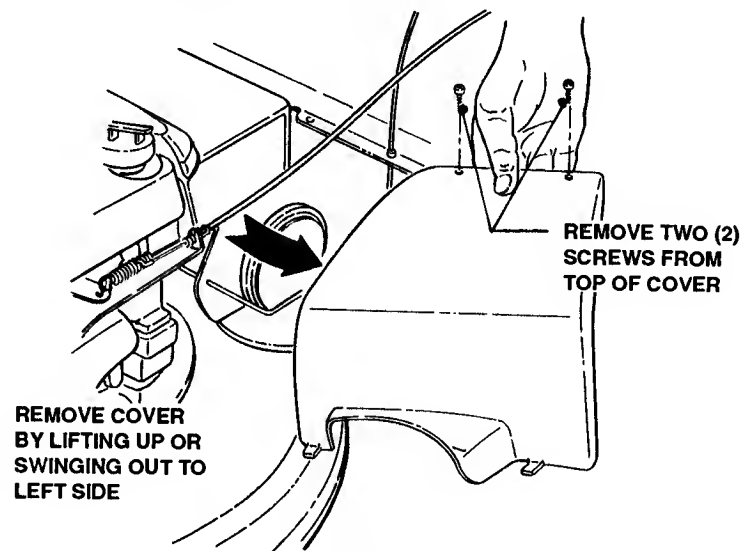

FIGURE 3.3
1. Remove DRIVE COVER by removing two screws from top of cover. See Figure 3.3.